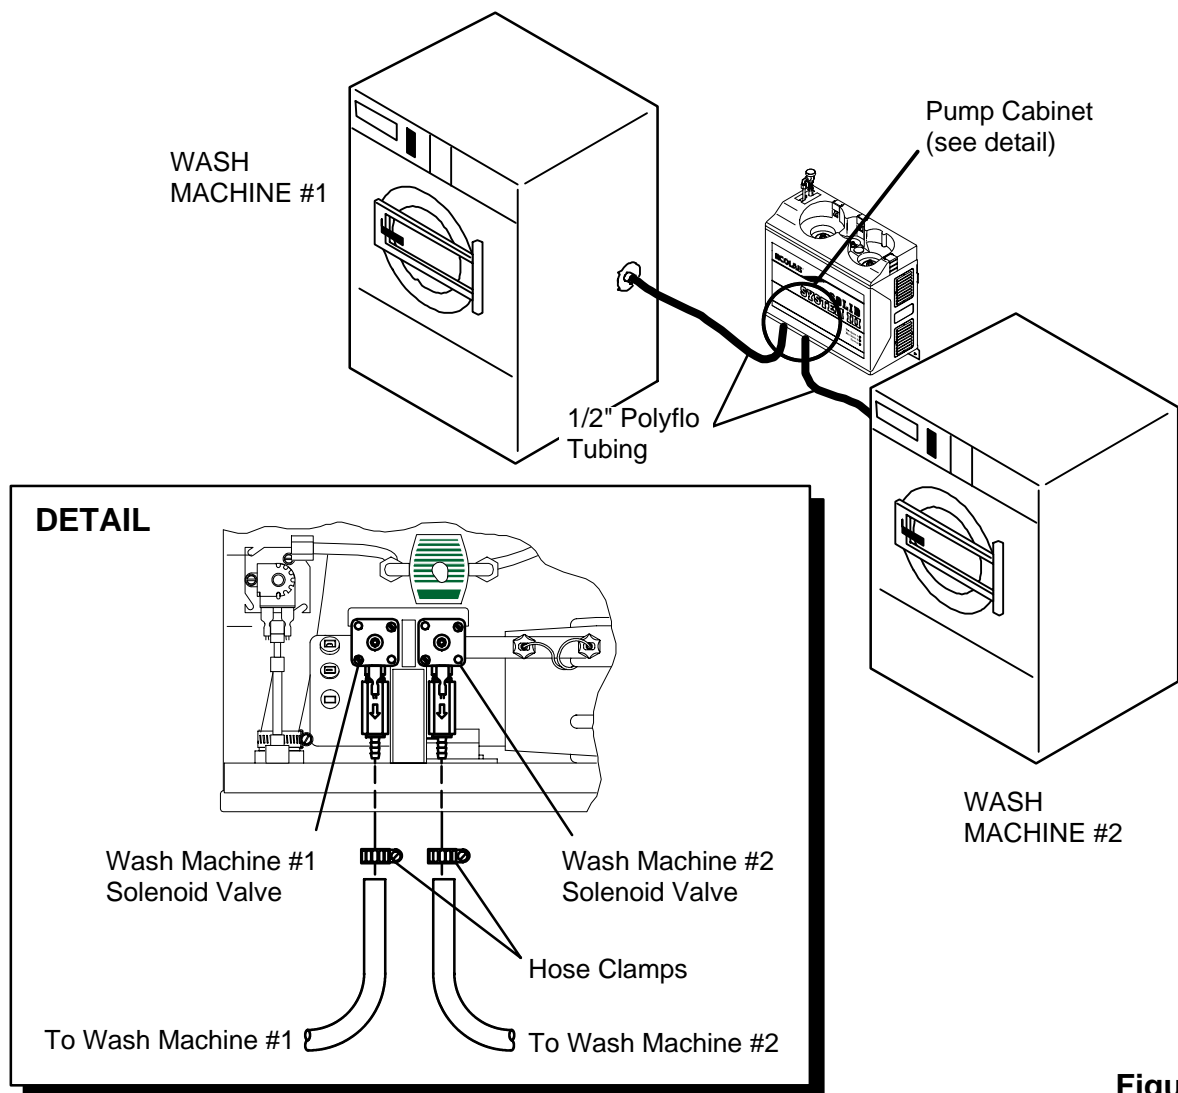

Figure 2-4
1. Remove the front cover on the Pump Cabinet and locate the solenoid valves in the lower left-hand corner of the cabinet. Wash Machine #1 is located on the left and Wash Machine #2 on the right. *Refer to Figure 2-4.*